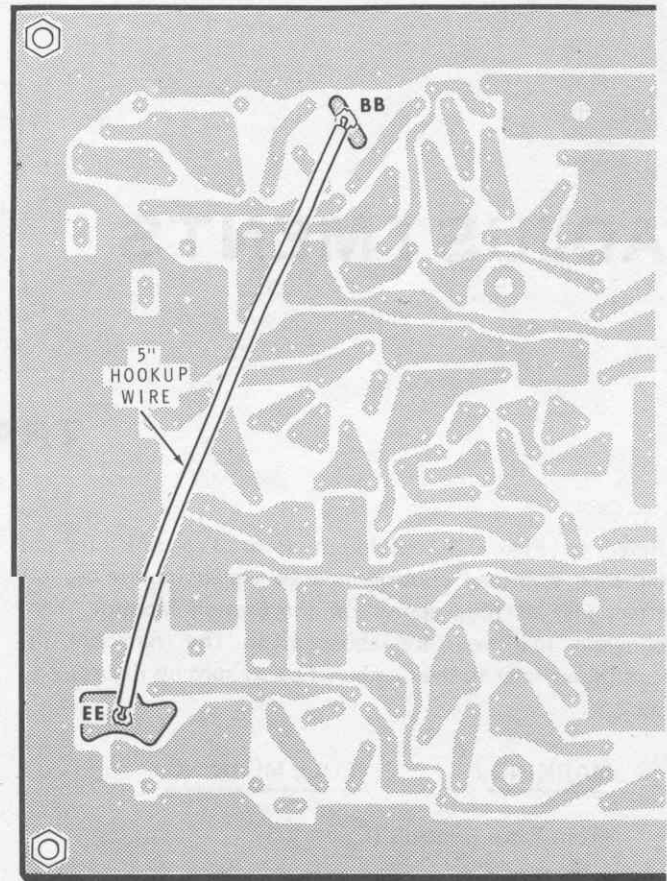

Figure 2-4
- ( ) Refer to Figure 2-4 and temporarily connect a 5" length of hookup wire from EE to BB (Marked on the top of the board) on the foil side of the main circuit board as shown.